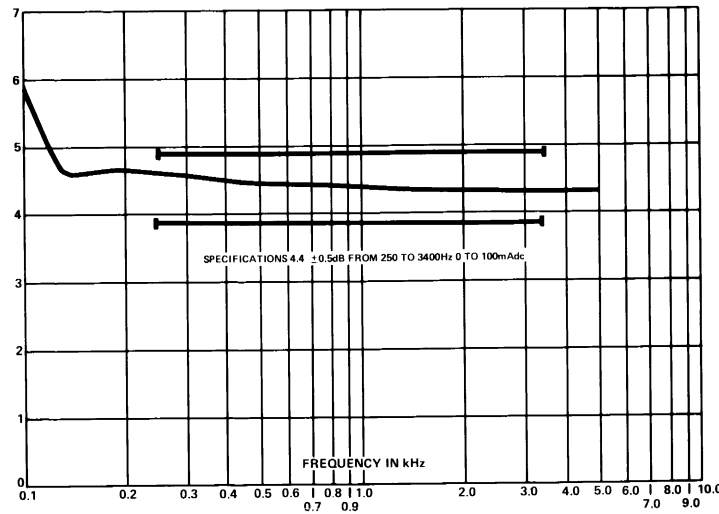

Figure 7. Hybrid Insertion Loss Specification Arranged for 600-Ohm 2-Wire Impedance
- (e) HYBRID INSERTION LOSS: Arranged for 600-ohm 2-wire impedance as shown in Figure 7.